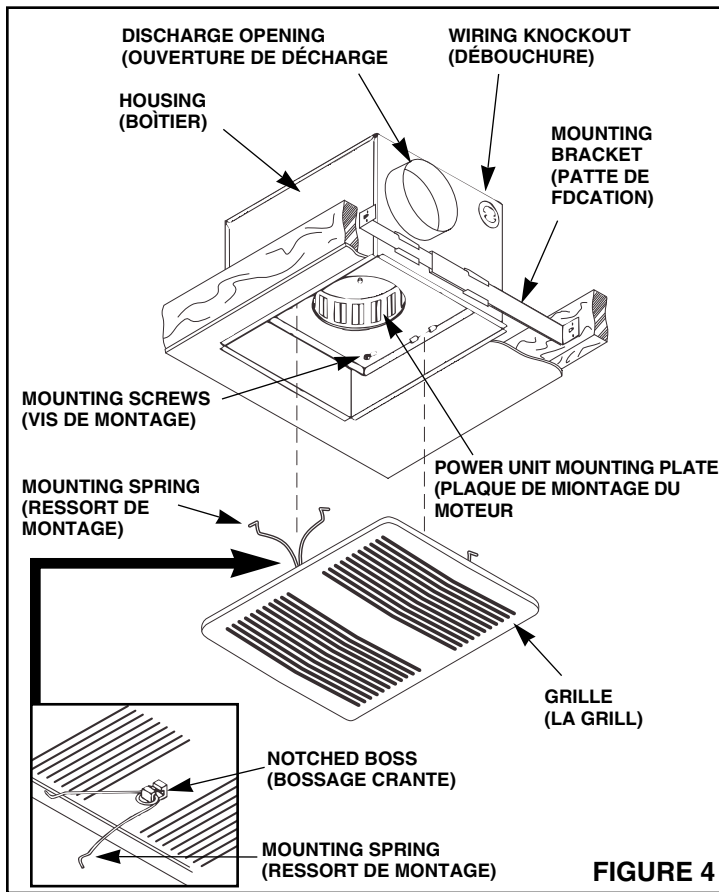

FIGURE 4
1. **Refer to Figure 4.** Insert mounting brackets at each end of housing.
4. Refer to Figure 4. Securely tighten screws.
1. Refer to Figure 4. Snap grille mounting springs' center loop into notched bosses on the back of grille.